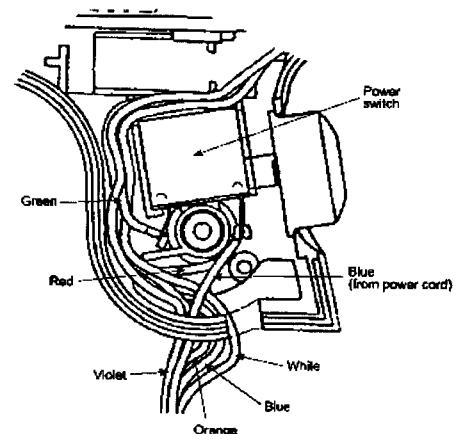

Fig.1
- (1) Assemble the heater block and motor block, and attach them into the housing B.
- (2) Attach the main switch push button, and insert the lead wire violet, blue, white, red, orange, green, and blue (from power cord) into housing B as shown in Fig.1.